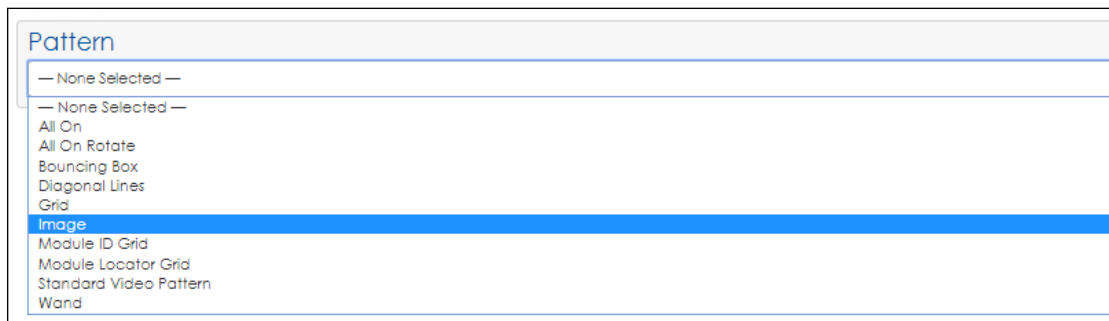

Figure 76: Test Patterns
3. Select the desired test pattern. Refer to **Figure 76** and **Test Pattern Details (p.46)**.